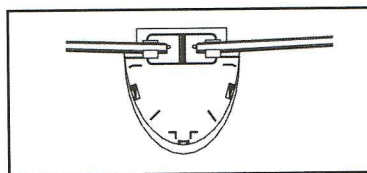

Fig. 34
- The four 39" bottom rails are for the "corners." One side snaps into the straight side connector on the final straight side upright, while the other side slides into a bottom plate or bottom cuff as shown in Fig. 33 or Fig. 34.